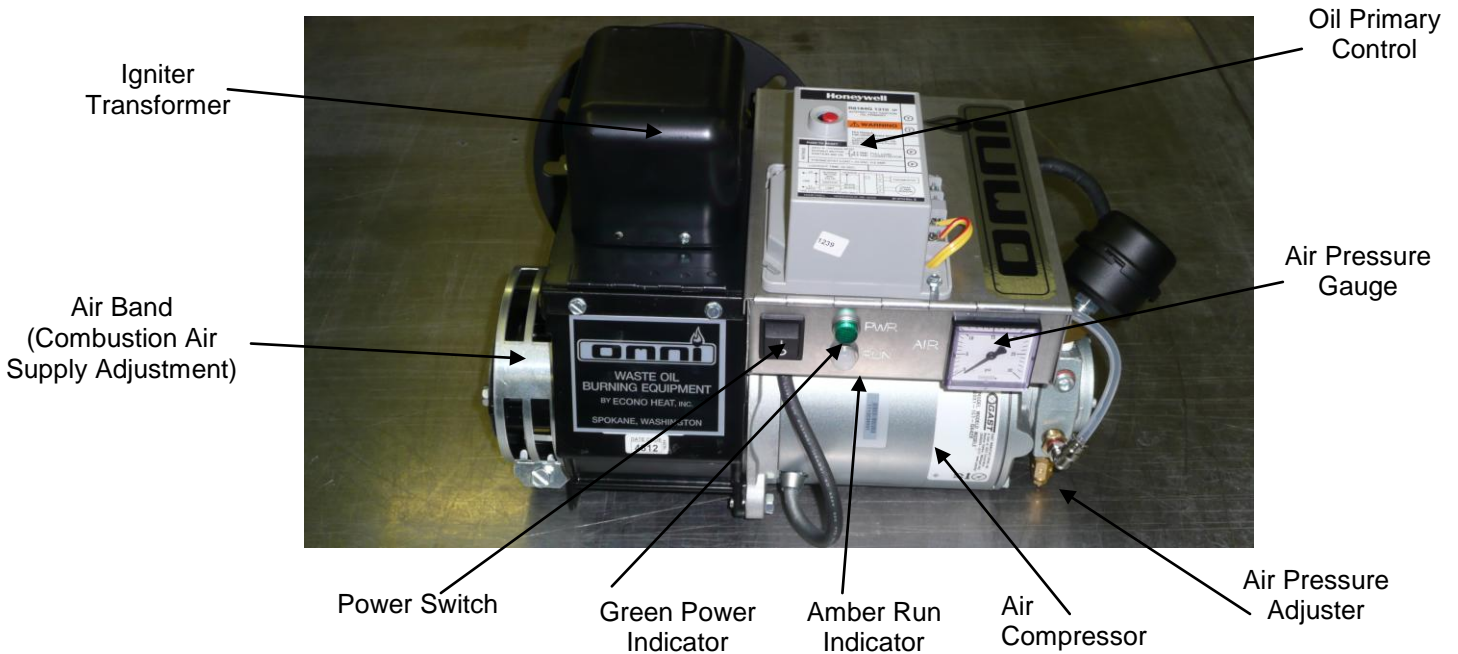
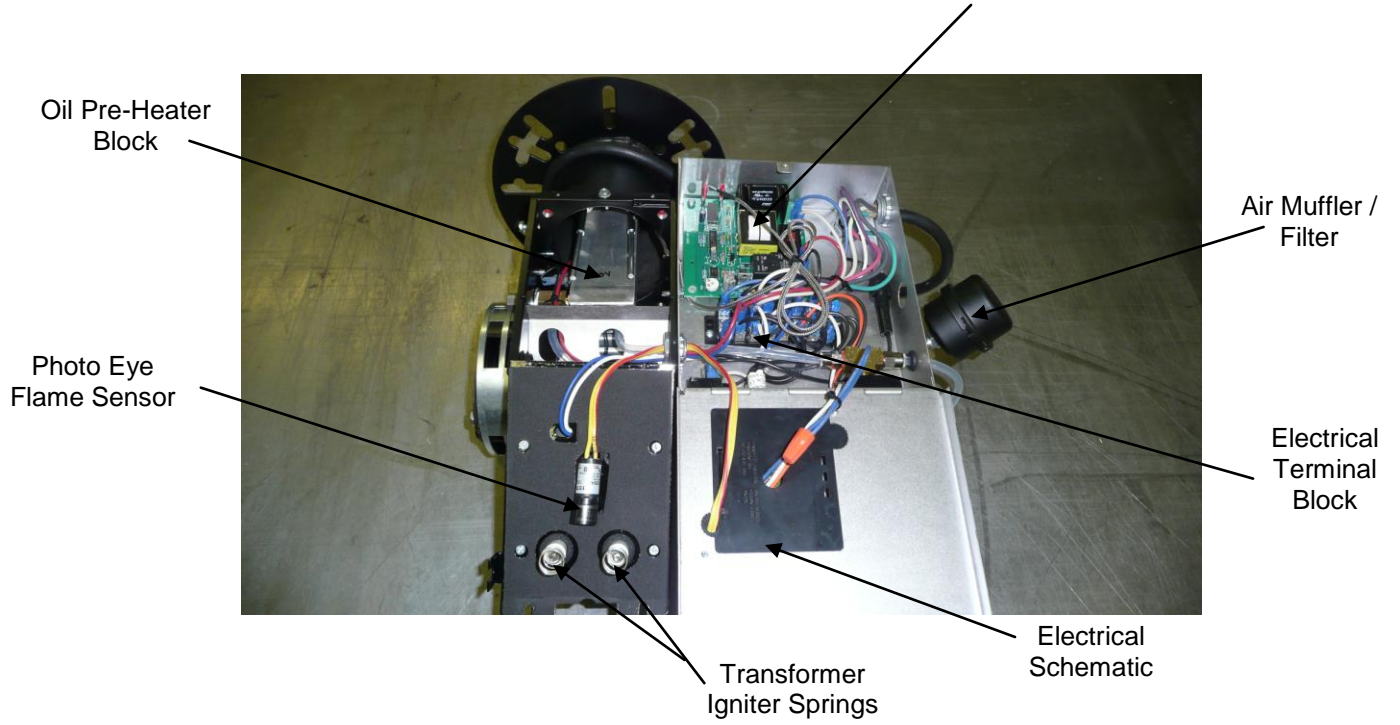
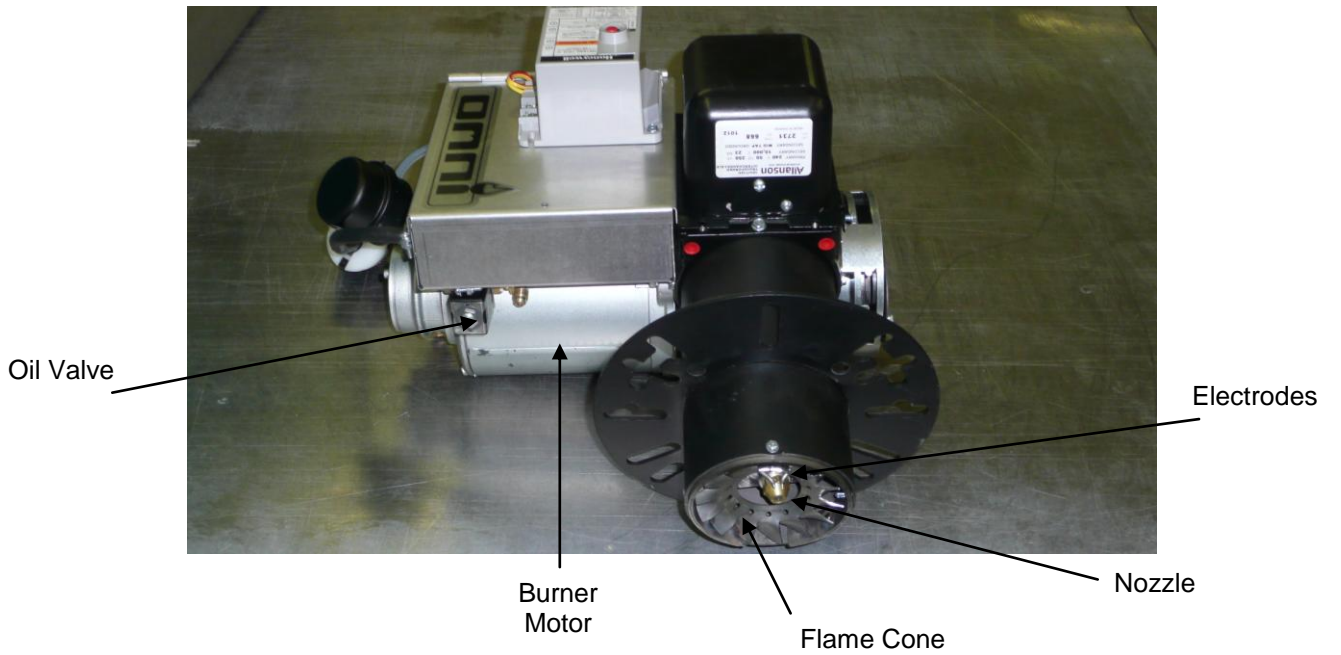

Figure 1 – Oil Burner (Back View Closed)
Figure 2 – Oil Burner (Back View Opened)
Figure 3 – Oil Burner (Front View)
Omni's patented burner technology improves the efficiency of the oil burn process by continuous stabilization of the oil viscosity. Optimum atomization (spray) is accomplished by precisely pre-heating the oil and air prior to introduction to the combustion chamber. The waste oil enters into the Oil Pre-Heater Block (figure2) and is pre-heated to operating thermo setpoint, then compressed air from the air compressor (figure1) is mixed with the oil prior to spraying out the nozzle similar to fuel injection, by breaking up the oil droplets into a finer mist or spray (atomization). Electrodes mounted just above the nozzle (figure3) provides continuous electrical arc across electrode to electrode igniting the fine oil mist as it sprays out of the nozzle. Once ignited the flame is forced into a swirl caused by the burners blower and specially designed flame cone (figure3) providing a very efficient and thorough burn of the waste oil.
- **Igniter Transformer:** (figure 1) Supplies high voltage to the electrodes generating electrical arc igniting the oil.
- **Oil Valve:** (figure 3) energizes when burner is running and de-energizes when burner is not running eliminating bleed back of oil out of the Pre-heater block.
- **Air Band:** (figure 1) Adjusts amount of air introduced into the combustion chamber. Air band is adjusted at the factory for optimum performance. **NO FIELD ADJUSTMENT REQUIRED** unless in high altitudes application where minor adjustment may be required.
- **Oil Primary Control:** (figure 1) Controls the oil burner ignition. Checks for flame in the combustion chamber, if no flame is detected within 45 seconds, the oil primary will shutdown the oil burner. To restart the unit, reset the red button on the oil primary.
- **Oil Pre-Heater Block:** (figure 2) Pre-heats the oil and air before entering combustion chamber.
- **Photo Eye:** (figure 2) Senses flame in combustion chamber and signals oil primary when no flame is present.
- **Igniter Springs:** (figure 2) Transfers the high voltage from the igniter transformer to the electrodes (when door is closed)
- **Air Pressure Gauge:** (figure 1) Displays air pressure supplied by onboard air compressor.
- **Air Compressor:** (figure 1) Supplies air used within pre-heater block to aid in atomization of the oil.
- **Air Muffler/Filter:** (figure 2) Filters air and muffles the sound generated by the compressor.
- **Pre-Heater Control Circuit Board:** (figure 2) Precisely controls temperature of the Oil Pre-Heater Block and controls safety feature of not allowing burner to energize until oil has established operating thermo setpoint or shutdown burner if Pre-Heater Block temperature falls below shutdown thermo setpoint.
- **Electrodes:** (figure 3) Provides continuous high voltage electrical arc from electrode to electrode igniting the waste oil as it is being sprayed out of the nozzle.
- **Nozzle:** (figure 3) Low pressure nozzle for oil spray pattern.
- **Flame Cone:** (figure 3) Specially engineered flame cone forces the flame into a swirl pattern improving the burn thoroughness.
- **Burner Motor:** (figure 3) Multitask motor turns the burner blower and integrated air compressor.
- **Air Pressure Adjuster:** (figure 1) Adjusts the air pressure going to the pre-heater block. Should be adjusted between 12 PSI and 13PSI as indicated on the Air Pressure Gauge on the burner for thorough burn of the waste oil.
- **Power Indicator:** (figure 1) Indicates when power is present at the burner.
- **Run Indicator:** (figure 1) Indicates that the burner is ready for operation after the initial pre-heat time of approx. 5 minutes from initial power up.
- **Power Switch:** (figure 1) Switches power off and on to the burner. NOTE: Not applicable on OWH Series Furnaces.
3. Depending on application, wire low voltage thermostat into “T” terminals on the Oil Primary (figure 1) or jump “T” terminals for continuous operation.
3. Making sure the thermostat is turned off, apply power to the burner. Switch burner main power switch to ON position. After allowing the oil pre-heater time to establish temperature setpoint, approximately 5 minutes. Jump the “T” terminals on the Oil Primary (figure 1). Once the burner is running, temporarily jump the “F” terminals on the Oil Primary. This will allow the burner to run during the pump priming process.
6. Combustion air band (figure1) should be open approximately 1/2” or until flame is clear yellow, not orange. Opening the air band too far may cause delayed in starting or even prevent the flame from starting.